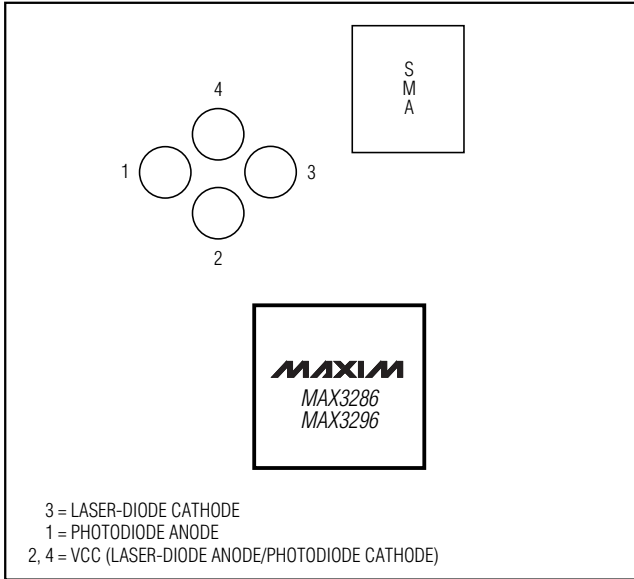

Figure 1. Optical Connection Diagram
- Make sure nothing is installed in the laser socket (Figure 1).
- Place jumpers across JU7 (EN), JU8 ($\overline{\text{EN}}$), and JU9 (PORDLY).
- If you intend to power the board from a +5V supply, place a jumper across JU6 (LV). **Do not apply power yet.**
- Connect a laser to the board (Figure 1).